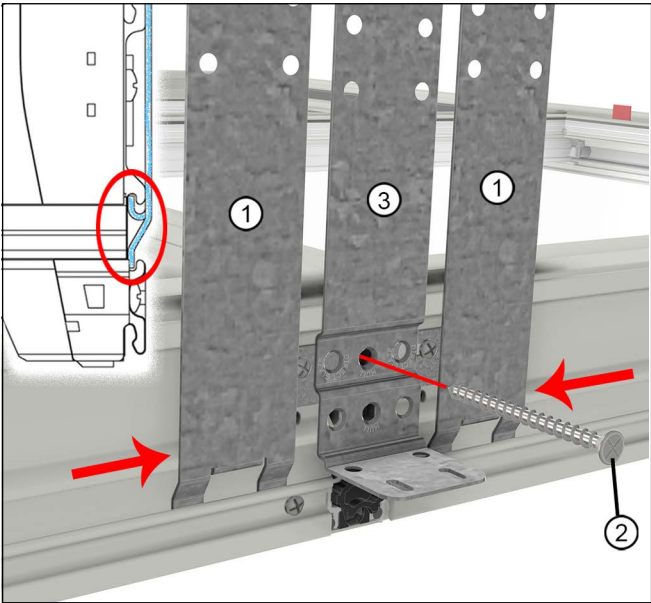

Figure 13 At sill
7. For mulls with MRF: For sill mull ends at the sill, apply two "flat" sill structural brackets spaced 1-1/8" from the center of the mull. Apply one 90° bent structural bracket between the first two, centered on the mull. See Figure 13.